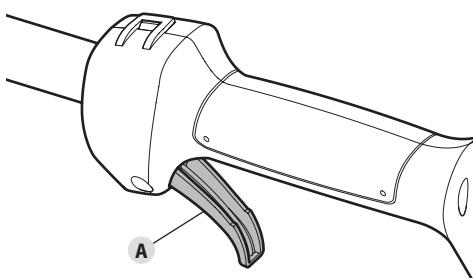

Fig. 15
- Squeeze and hold the throttle control (Fig. 15-A).
- Release the throttle control (Fig. 15-A) and allow the engine to idle.